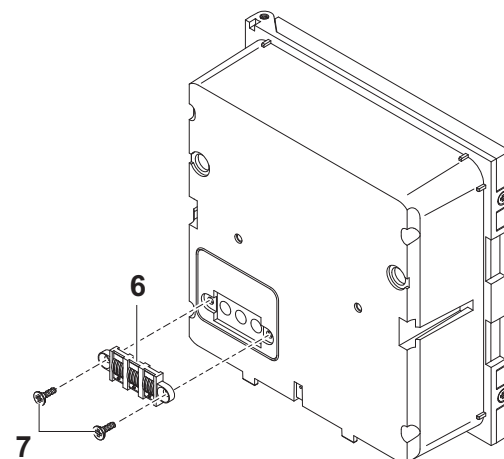

Fig. 3-10 Mounting the contact base (variant 2)
- 5 Attach the contact base (pos. 6 in Fig. 3-10) on the front MIQ module with the two plastic tapping screws (pos. 7).